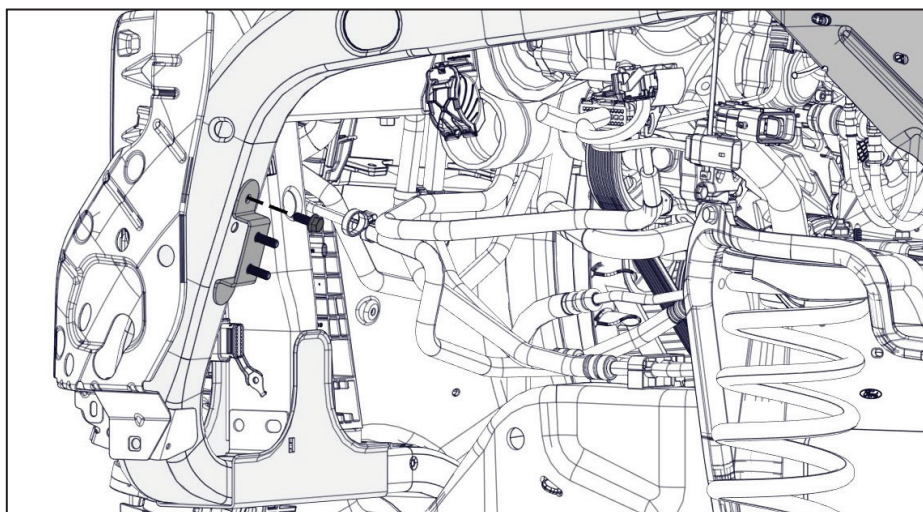

Figure 79 — Installing the windshield washer bottle bracket
- ☐ Using the OEM fastener, install the supplied windshield washer bottle bracket (Figure 79).